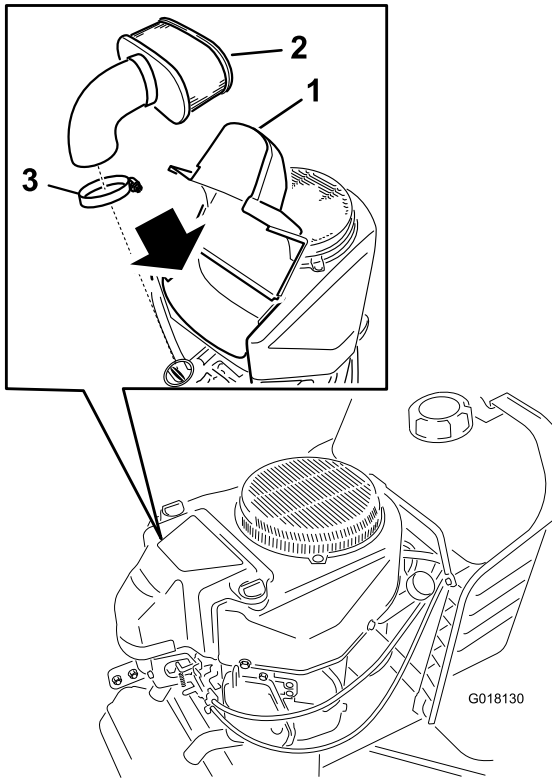

Figure 20
5. Lift the cover and remove the hose clamp that secures the air cleaner assembly to the engine (Figure 20).